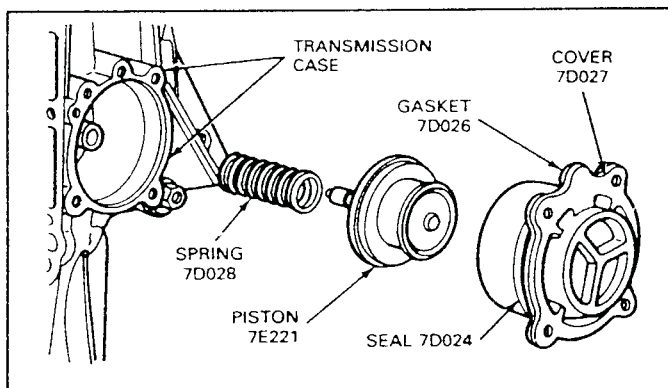

FIG. 10 Intermediate Servo Disassembled—Typical
(Refer to Fig. 10).
9. Replace the complete piston and rod assembly if the piston or piston sealing lips are damaged, (Fig. 10).